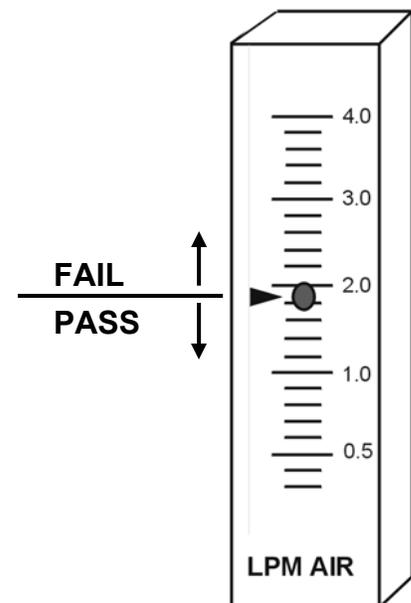

Figure 7
12. Once the meter's indicator-ball has stopped descending, observe if the indicator-ball is above or below the flow meter's red pointer-flag. (Figure 7)